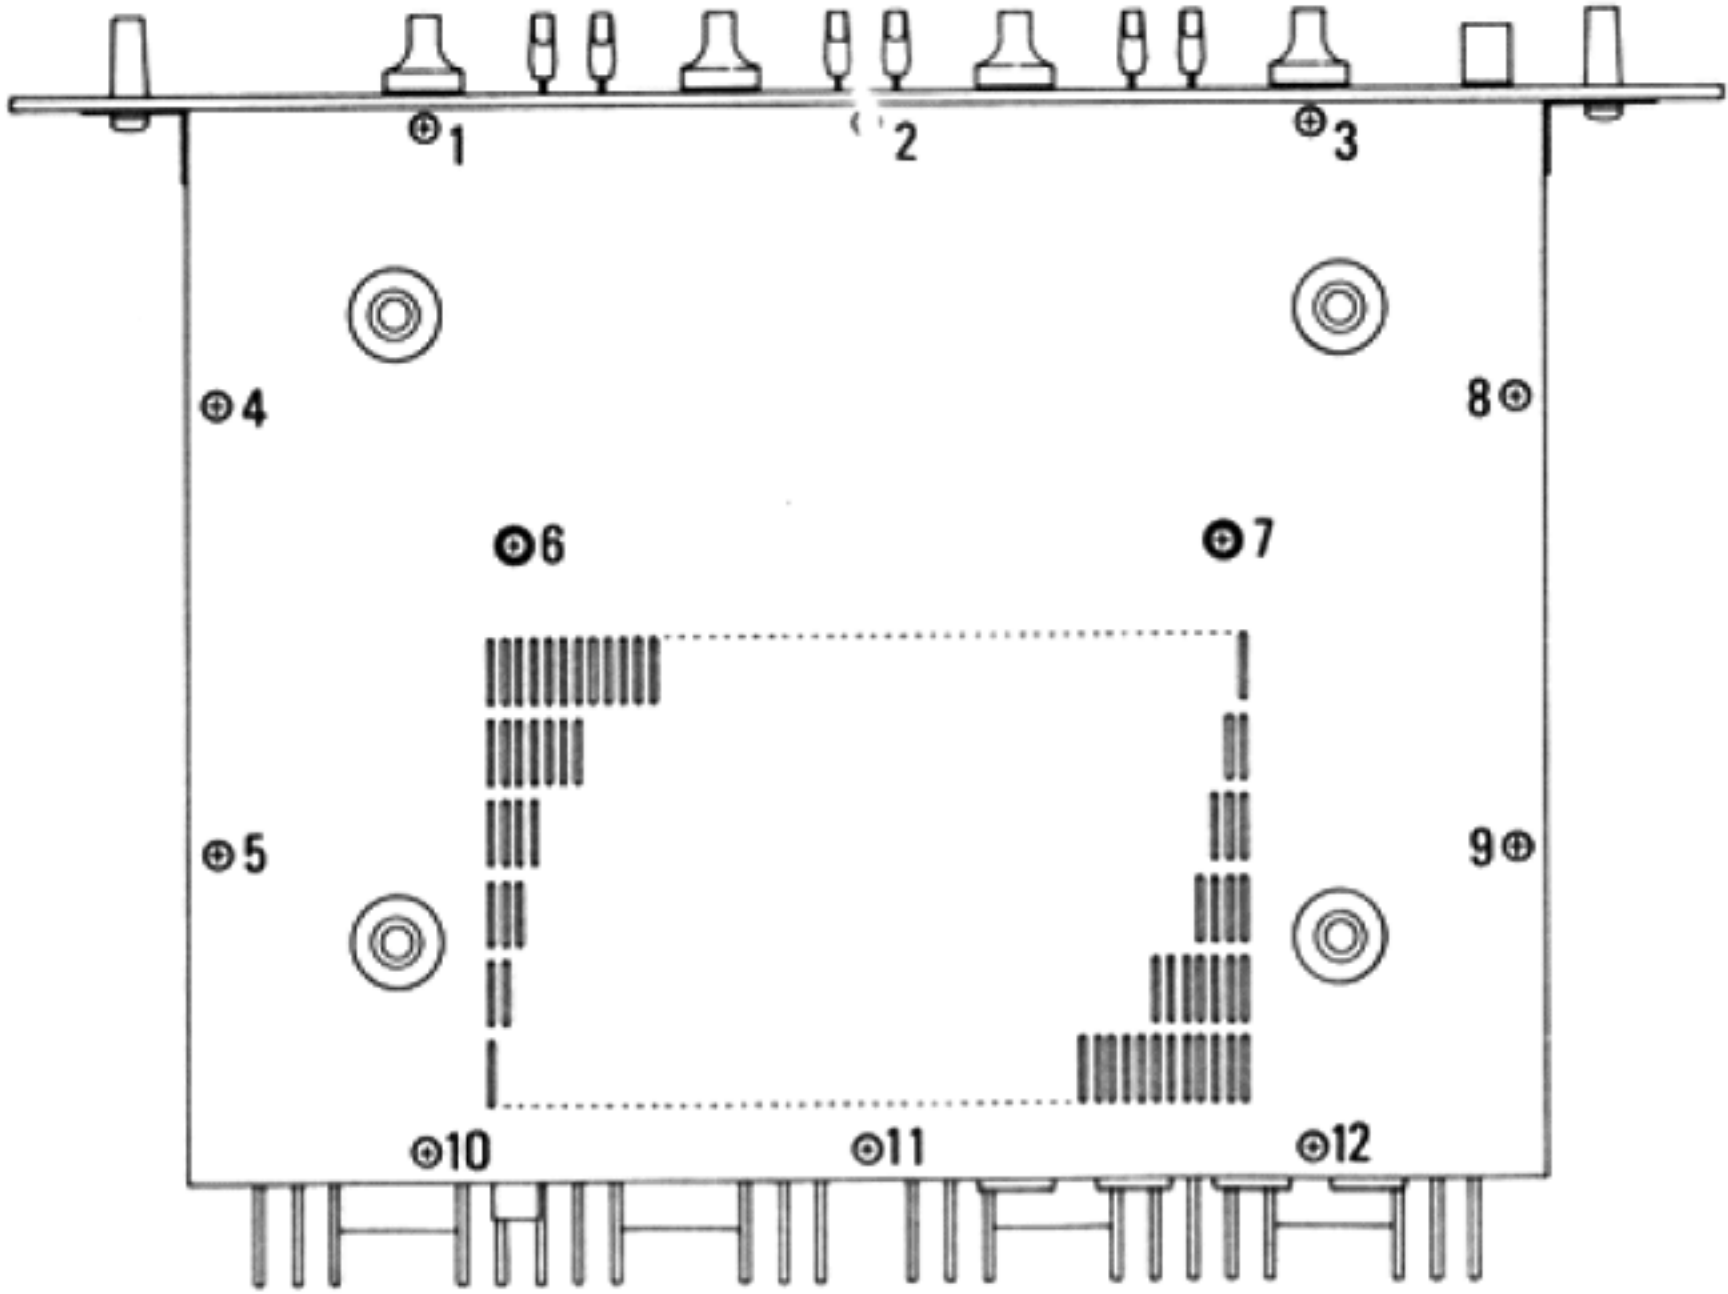

Fig. 1-2 BOTTOM VIEW
- 2. Remove Bottom Cover. (Fig. 1-2, remove screws 1-10.)